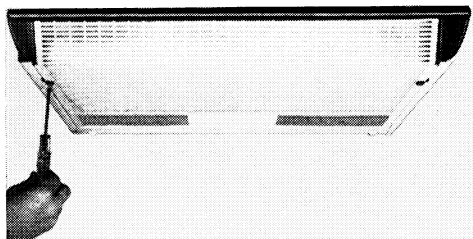
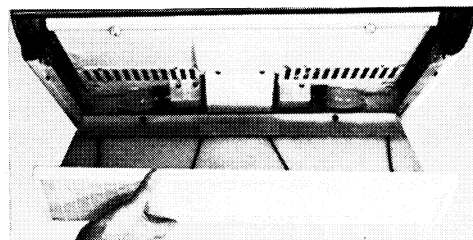

Abb. 8
Abb. 9
b) Open filter grille; for this purpose, unlatch both latching screws (on the right and left edge of the grill) by turning them inwards (fig. 8). Grille comes down (fig. 9). Now it can be unhinged; to do this, pull grille at the right hand side to the front until it can be taken out of the holders.